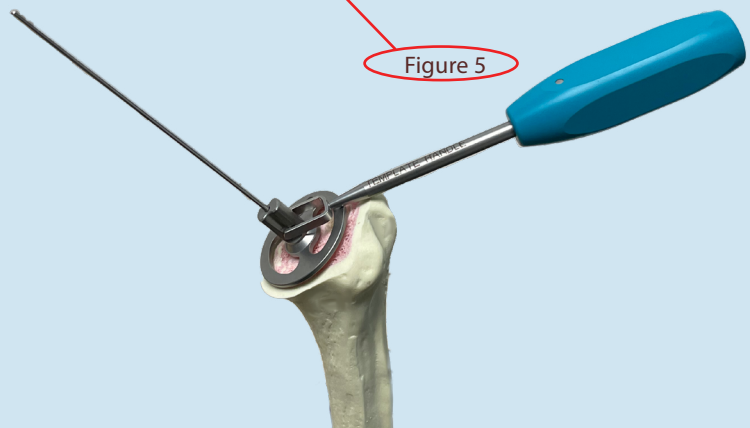

Figure 5
STEP 3: PLACING THE K-WIRE (Figure 5)